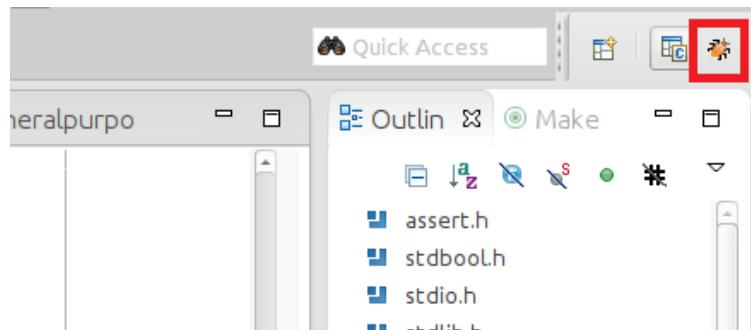

Figure 8-37. Switching to the DS-5 Debug Perspective
30. Switch to the DS-5 Debug perspective, as shown in Figure 8-37.